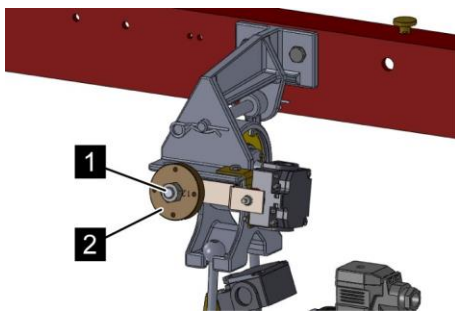

Fig. 78: Adjusting the weighing device
34. ➤ Screw the counterweight (Fig. 78/2) far enough onto the threaded rod (Fig. 78/1) that it still goes into the self-holder.